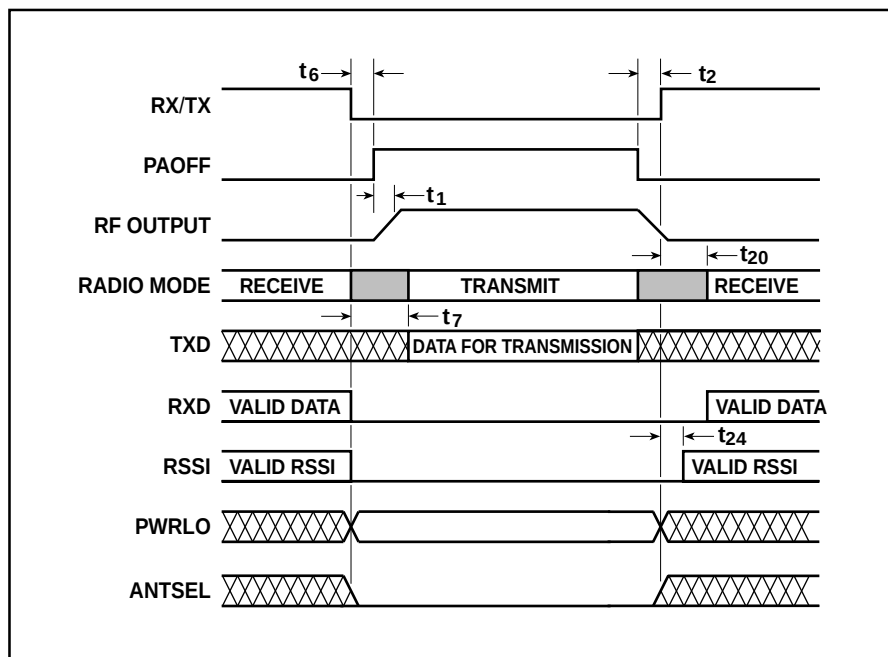

Fig. 3 Timing control diagram
The timing diagrams, Figs. 3 to 8, show some of the normal sequences used in the control of the DE6003 and are used to illustrate timing relationships. Table 6 is the truth table for these signals values for which are given in Table 7. Each entry in Table 7 is described on pages 9 and 10.
$T_{AMB} = 25^{\circ}\text{C}$, $V_{CC} = 5\text{V} \pm 5\%$, $V_{CC-5} = +3\text{V}$ to $+6\text{V}$, data rate = 625kb/s. Refer to Figs. 3 through 8 and Notes on pages 9 and 10.
2. Transmitter Power Amplifier Control, PAOFF (t_1, t_2 and t_6 – see Fig. 3)
5. Receive Mode to Valid Transmit Data (t_7 – see Fig. 3)
16.Transmit to Valid Received Data (t_{20} – see Fig. 3)
(t_{24} – see Fig. 3)